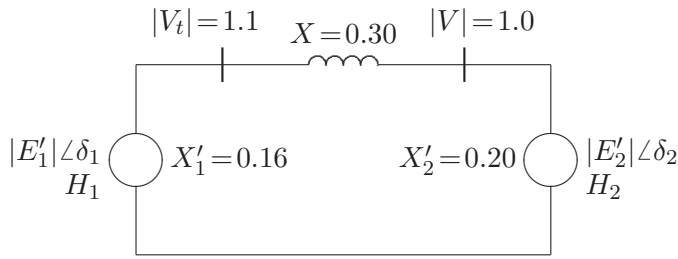

FIGURE 91
11.5. Two synchronous generators represented by a constant voltage behind transient reactance are connected by a pure reactance $X = 0.3$ per unit, as shown in Figure 91. The generator inertia constants are $H_1 = 4.0$ MJ/MVA and $H_2 = 6$ MJ/MVA, and the transient reactances are $X'_1 = 0.16$ and $X'_2 = 0.20$ per unit. The system is operating in the steady state with $E'_1 = 1.2$, $P_{m1} = 1.5$ and $E'_2 = 1.1$, $P_{m2} = 1.0$ per unit. Denote the relative power angle between the two machines by $\delta = \delta_1 - \delta_2$. Referring to Problem 11.4, reduce the two-machine system to an equivalent one-machine against an infinite bus. Find the inertia constant of the equivalent machine, the mechanical input power, and the amplitude of its power angle curve, and obtain the equivalent swing equation in terms of δ .